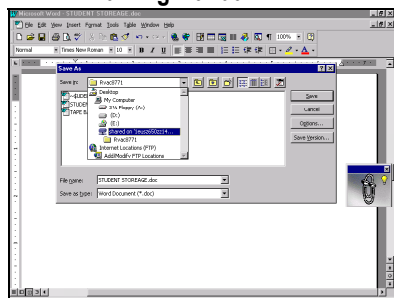

FIGURE VI.4
- 4) The student will move the cursor to the down arrow at the right of the "Save in:" window (see figure VI.4) and left-click the mouse button one time. The drop down menu will open.